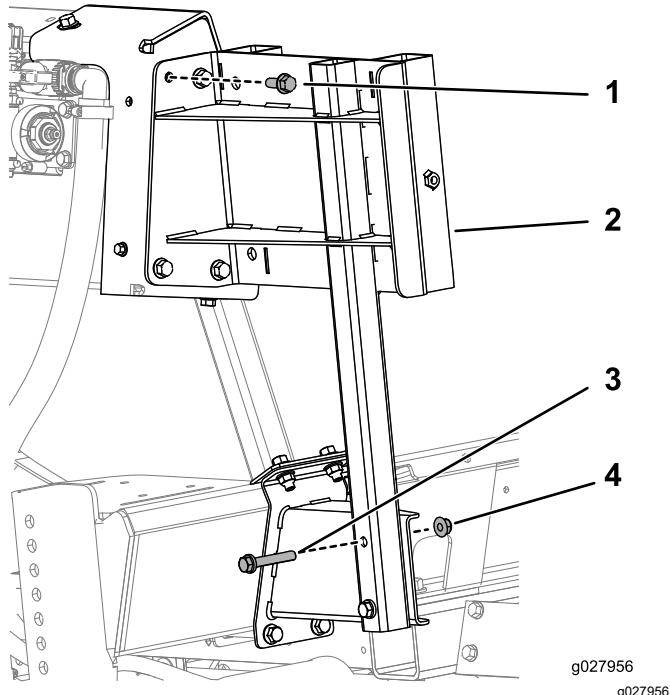

Figure 13
- Secure the reel-shelf support bracket to the upper and lower brackets using 4 bolts (3/8-16 x 1 inch), 2 bolts (3/8-16 x 2 1/4 inch), and 6 flange nuts (3/8-16 inch) as shown in Figure 13.